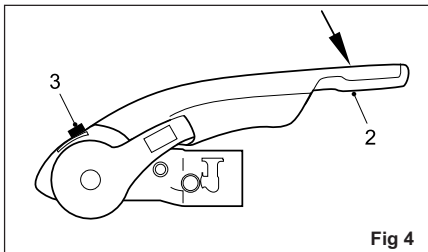

Fig 4
WARNING: The coupling is correctly engaged when the green edge of the safety indicator button is visible (Fig. 4/Item 3).
- To operate the Stabiliser (once coupled to the towball), simply press the stabiliser lever down as far as it will go (Fig. 4/Item 2).